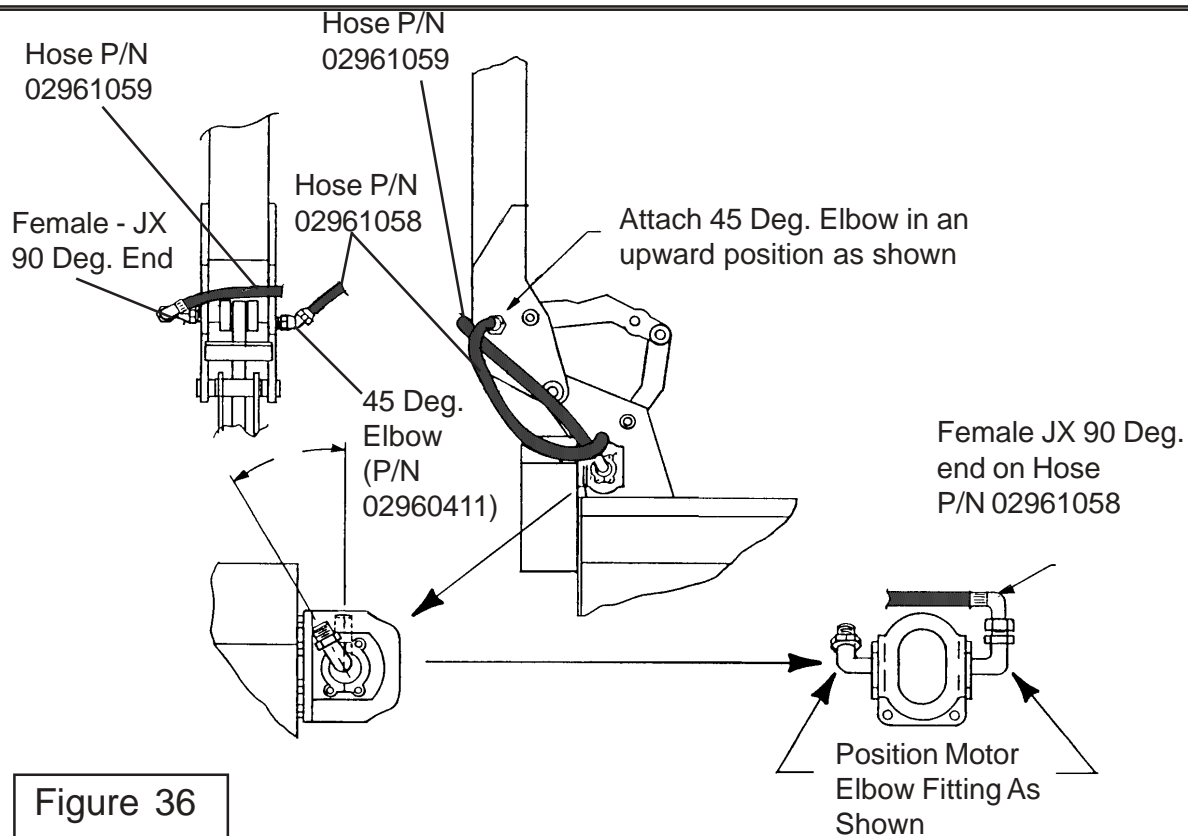

Figure 36
1. With a forklift or hoist, lower the Boom Weldment down on the Flail Axe Head. Align the Boom Weldment with the Flail Axe Hitch Post. Insert special bolts (Item 1 P/N 02956972 and Item 2 P/N 00752405) into Boom Weldment and Hitch Post. Attach nuts Item 3 P/N 02030300 and Item 4 P/N 000037200) to bolt and tighten securely. NOTE: Additional support may be needed at the end of the Boom to aid in installation (See Figure 36).